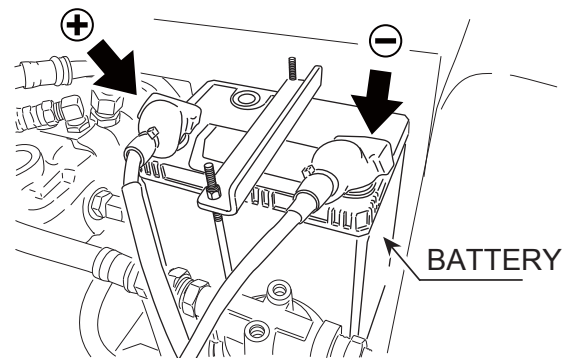

Figure 29. Battery Connection
1. When removing cable, disconnect the negative terminal first (Figure 29) then the positive terminal. When connecting the battery, connect the positive terminal first.